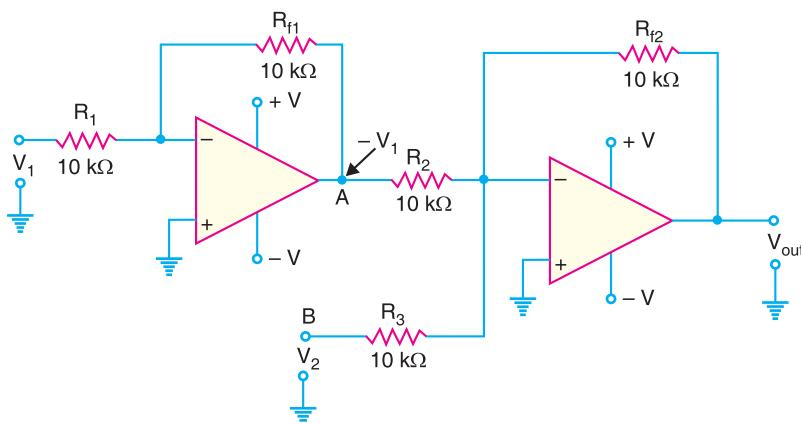

Fig. 25.78
**2. As subtractor.** A summing amplifier can be used to provide an output voltage that is equal to the difference of two voltages. Such a circuit is called a **subtractor** and is shown in Fig. 25.78. As we shall see, this circuit will provide an output voltage that is equal to the difference between  $V_1$  and  $V_2$ .